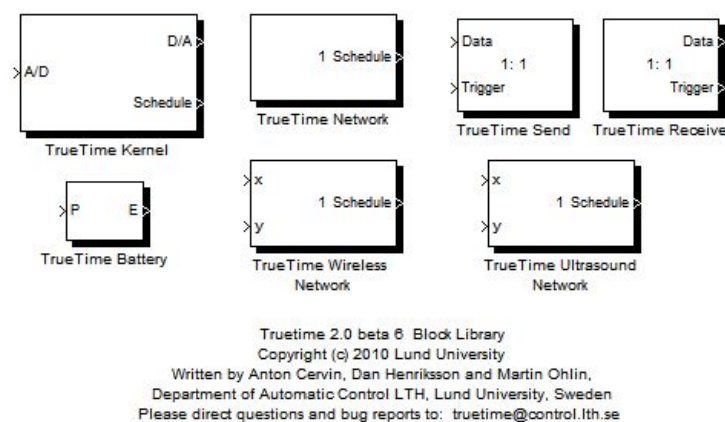

Figure 4: Truetime's Simulink blocks.
3. After executing the last line, check that you get the same window as in Figure 4.
The computer block executes user-defined task, i.e. control algorithms, and it is able to simulate the system using arbitrary scheduling policies. In Figure 4 the computer block (**TrueTime kernel**) is shown.